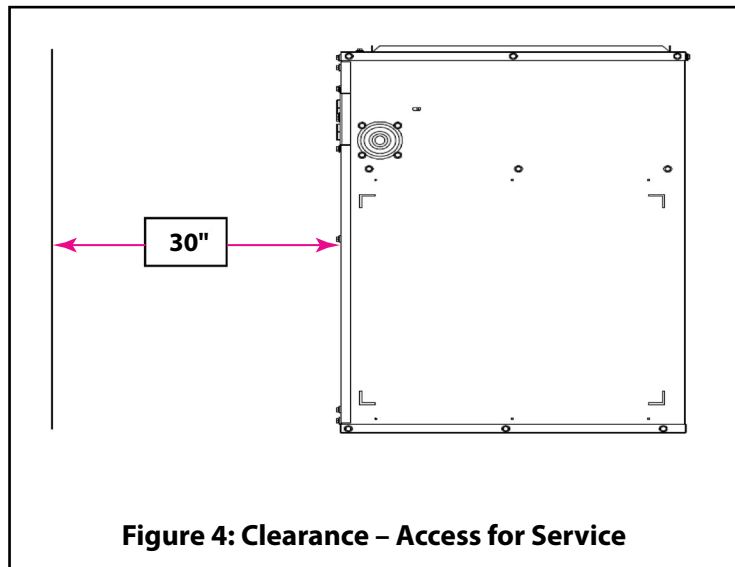

Figure 4: Clearance - Access for Service
This air handler is approved for zero (0) inches clearance to combustible material on any part of the air handler exterior casing. Refer to Table 7 and Figures 4 and 5 for clearance to combustibles and for service access clearances.